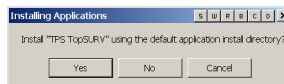

Figure 1-9. Installing Applications
6. Click **Yes** at the *Installing Applications* screen (Figure 1-9) to install TopSURV into the default directory in the controller.